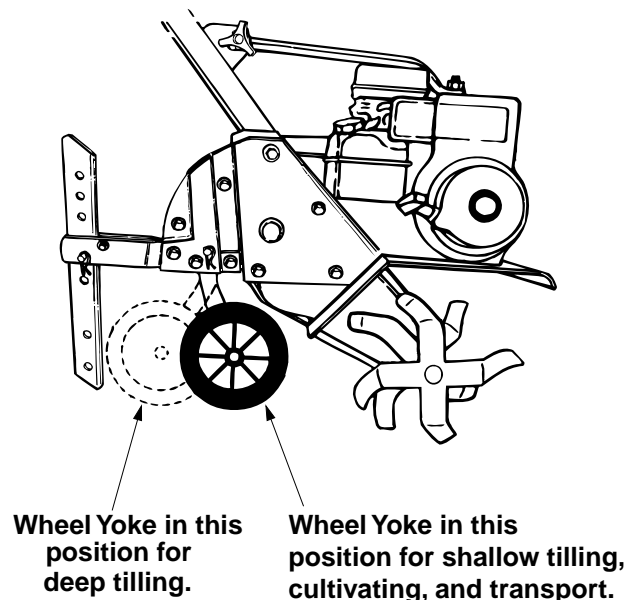

Figure 11
1. **Wheel Yoke Adjustment:** Place wheel yoke so that the wheels are forward (nearest point between wheels and tines) for shallow tilling, cultivating and transport. The forward speed will increase. Turn yoke around (farthest point between wheels and tines) for deep tilling. Forward speed will decrease. (See Figure 11.)